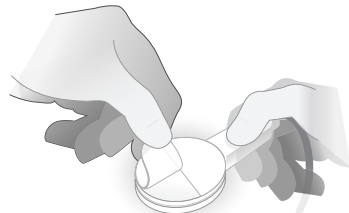

Figure 3-3: Remove the backing liner
4. Remove backing liner on the sensor to expose adhesive (see Figure 3-3). Do not bend sensor when removing backing liner.